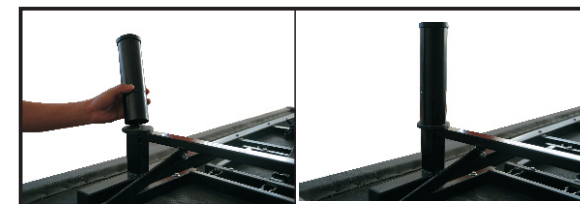

Figure 2
-Install the six legs firmly into the base of the frame. The legs screw into the threaded holes in each corner of the adjustable base frame (See Figure 2). The legs are stackable. The combination give you a set of six 4",6" or 10"legs.